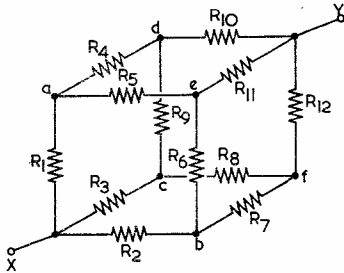
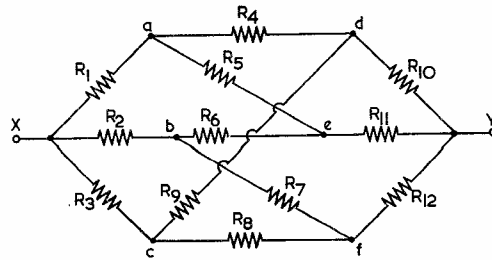

Fig. 1. The cube of resistors. If each resistor has a value of 1Ω , what is the resistance between X and Y?
Fig. 2. The cube of Fig. 1 may be redrawn as shown here
I would guess that readers looking at the circuit shown in Fig. 1 will react in one of three ways. They will either (1) observe it with a frown, recognising it as one of those infuriating little problems they've never got round to solving yet, (2) look upon it with the disdainful expression of one who already knows the answer, or (3) give it one of those dubious glances which indicate a complete absence of clues as to what it's all about. For the benefit of (3) I will explain that Fig. 1 is the well-known "cube of resistors" which is usually raised to torment students who are working their way through parallel and series resistor combinations. Each resistor has a value of (say) 1Ω , and the problem is to find the resistance between points X and Y, or the total current which flows when a specified voltage is applied
The trouble with Fig. 1 is that it is difficult to isolate parallel and series resistor combinations from the cube network. It helps a little to rearrange the resistors as in Fig. 2 but, even here, things aren't really much easier. However, Fig. 2 does show the symmetry of the circuit in that R_4 joins point (a) to point (d), R_6 joins (b) to (e) and R_8 joins (c) to (f). Slant-wise, R_5 joins (a) to (e),